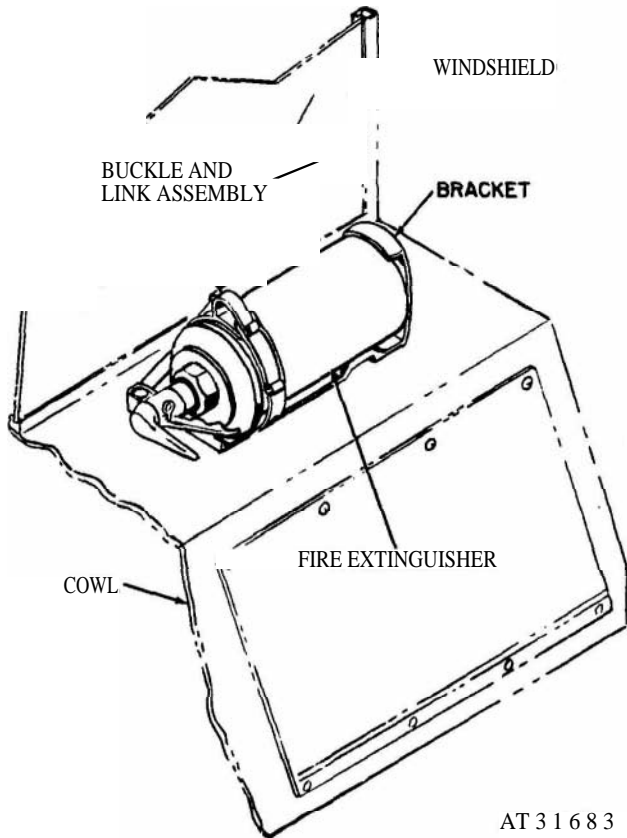

Figure 2-369. Fire extinguisher canister, removal and installation.
a. Removal. Release buckle and link assembly securing fire extinguisher to bracket located on cowl. Remove fire extinguisher (fig 2-369).
c. Installation. Position fire extinguisher on bracket and secure with buckle and link assembly (fig 2-369).